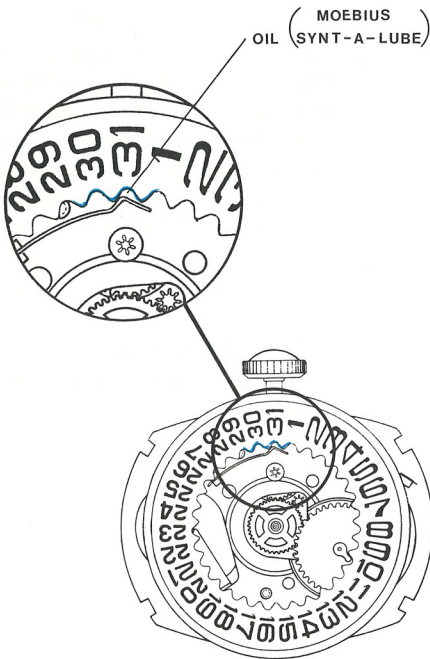

FIGURE 8
- During reassembly, apply non spreading watch oil to three teeth of the Date Ring and at the end of the Detent Spring where it engages the Date Ring (see Figure 8).